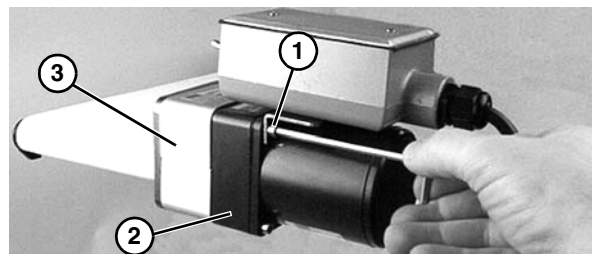

Figure 60
3. Remove four (4) screws (**Figure 60, item 1**). Remove gearmotor (**Figure 60, item 2**) and top cover (**Figure 60, item 3**).